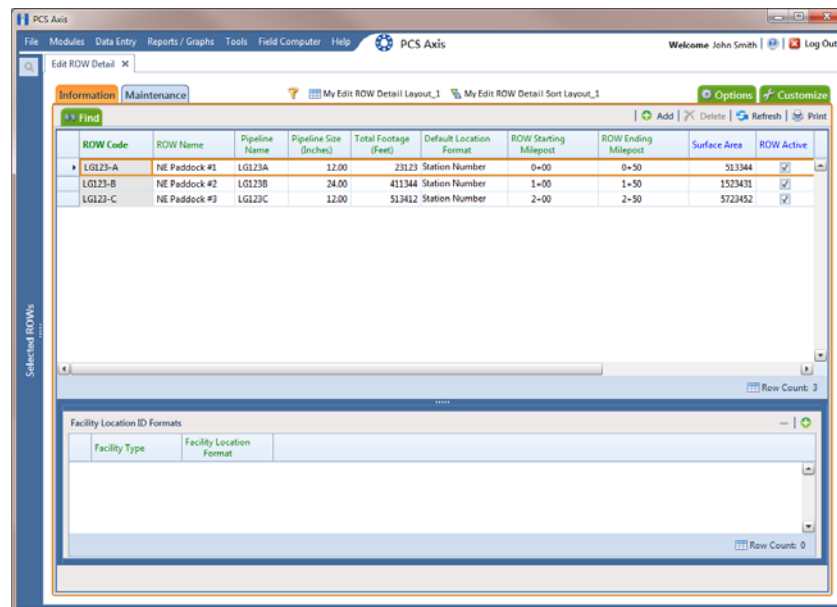

Figure 4-13. Information Grid
- 3 Open the *Edit ROW Detail* grid. Click **Data Entry > Edit ROW Detail** (Figure 4-13).